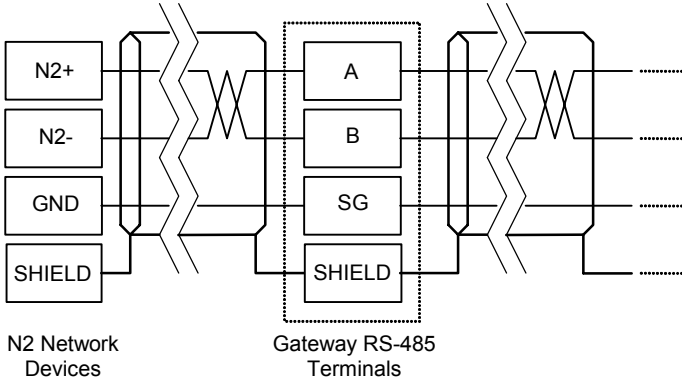

Figure 25: N2 Bus Cable Connection
- **Analog input (AI)** objects are used for monitoring analog status items. AI objects support low alarm limits, low warning limits, high warning limits, high alarm limits and differential values. Change of state (COS), alarm and warning functions can also be enabled. An AI object will accept an override command, but will not change its actual value or indicate override active. A “multiplier value” is associated with the object, and is multiplied to the point’s value to produce the floating-point AI value sent to the NCU (AI value = [point data value] X multiplier).
- **Analog output (AO)** objects are used for setting and monitoring analog control and configuration items. An AO value can be modified by issuing an override command. Issuing a release command will not cause the AO to automatically return to its pre-override value, nor will the AO automatically return to its pre-override value after a certain time period of no communication. A “multiplier value” is associated with the object, and the floating-point AO value is divided by this multiplier to produce the result that is passed on to a point’s value (point data value = [AO value] / multiplier).
- **Binary input (BI)** objects are used for monitoring discrete (digital) status items. BI objects support COS, alarm enabling and normal/alarm status indications. A BI object will accept an override command, but will not change its actual value or indicate override active. A “bit mask” is associated with the object, and is used to determine the current state of the BI by inspecting the point’s data at the bit location(s) indicated in the bit mask. If all of the bit locations of the point’s data value indicated by a “1” in the bit mask are set, then the BI’s current state is set to “1”. Else, it is set to “0”. The point data’s least-significant bit (LSB) is bit #0, and the most-significant bit (MSB) is bit #15.
- **Binary output (BO)** points are used for setting and monitoring discrete control and configuration items. A BO value can be modified by issuing an override command. Issuing a release command will not cause the BO to automatically return to its pre-override value, nor will the BO return to its pre-override value after a certain time period of no communication. A “bit mask” is associated with the object, and is used to determine the current state of the BO by modifying the point’s data at the bit location(s) indicated in the bit mask. When the BO’s current state is set to “1” by the NCU, then the bit(s) of the point’s data indicated by a “1” in the bit mask are set. Similarly, when the BO’s current state is set to “0” by the NCU, then the bit(s) of the point’s data indicated by a “1” in the bit mask are cleared. The point data’s least-significant bit (LSB) is bit #0, and the most-significant bit (MSB) is bit #15.
- The gateway's RS485A port can be directly connected to the N2 bus by using twisted-pair cable connected as shown in Figure 25. Connect the N2+ wire to terminal "A", the N2- wire to terminal "B", and the cable shield to terminal "SHLD" on the gateway's terminal block. Although not available on all devices, it is also recommended to connect a network ground wire whenever possible. Continue this connection scheme throughout the remainder of the network. Always connect each unit in a daisy-chain fashion, without drop lines, star configurations, etc. For further N2 network wiring requirements and procedures, please refer to the appropriate JCI network installation documentation.